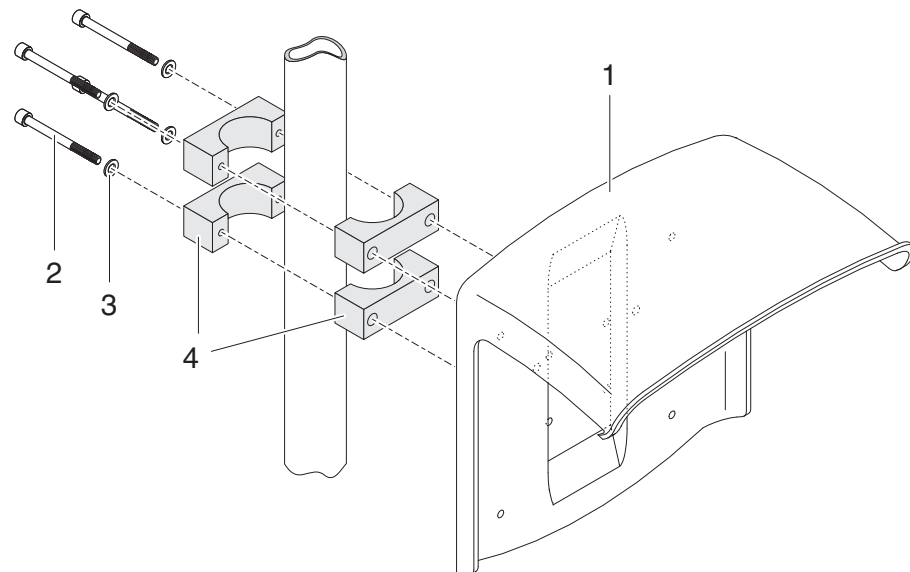

figure 3-5 Mounting the SSH/IQ sun shield on a mounting stand
- 1 Screw the sun shield (pos. 1 in figure 3-5) with the four hexsocket head screws (pos. 2), the washers (pos. 3) and the clamps (pos. 4) at the required height on the mounting stand from the back.